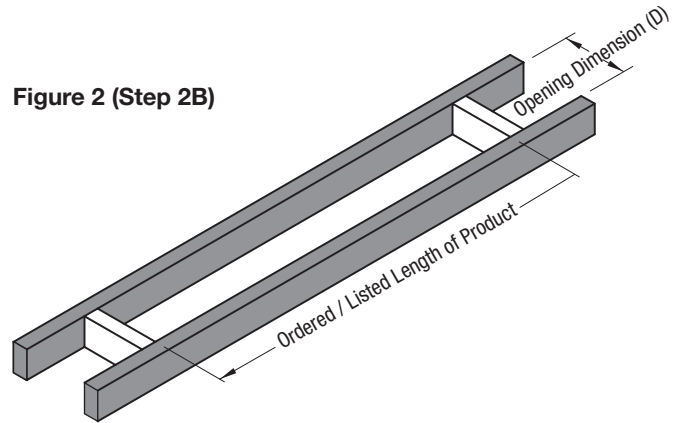

Figure 2 (Step 2B)
B. In general, the length of the opening within the framing should be the ordered/listed size (see Figure 2) and the opening width should be the “D” Dimension (see Figure 4).